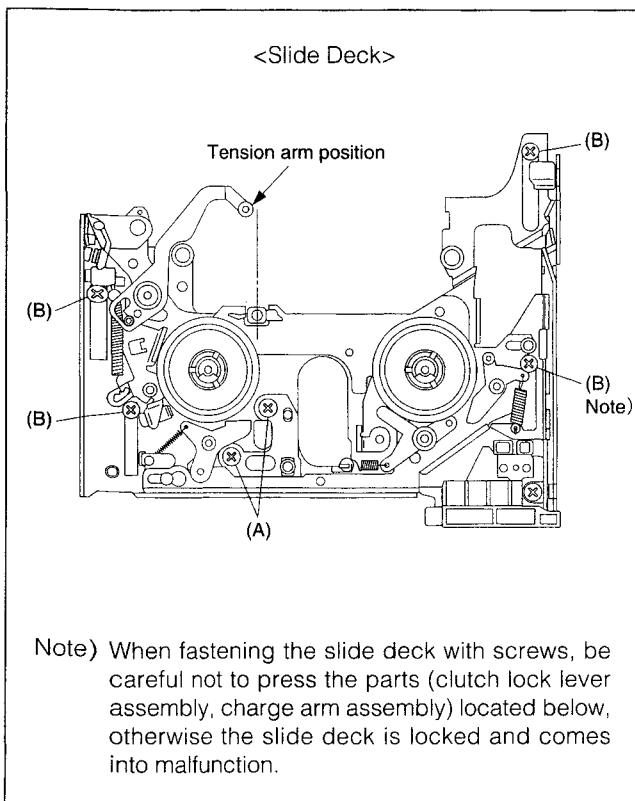

Fig. 2-2-12
- (2) Loosen two screws (A) on the slide deck section (temporarily fastened status). Assemble the slide deck to the main deck and fasten them with four screws (B). (See Fig. 2-2-12.)